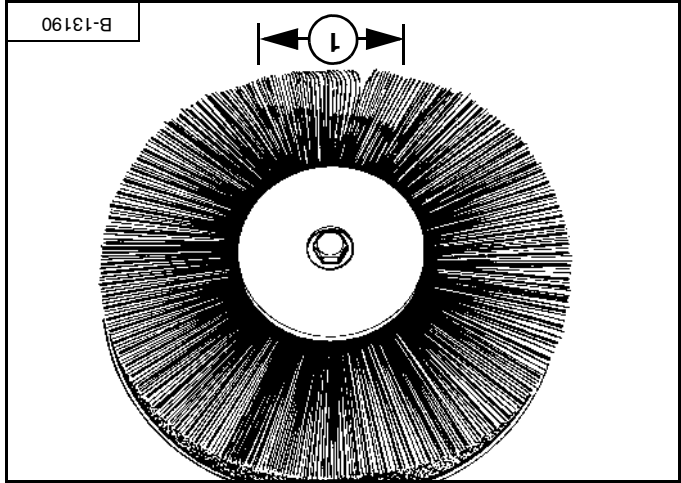

Figure 59
A 50 - 76 mm (2 - 3 in) (item 1) [Figure 59] pattern is recommended for ground contact and allows the tips, or ends of the bristles, to dig and break up the debris then throw the debris off the swept surface into the bucket.